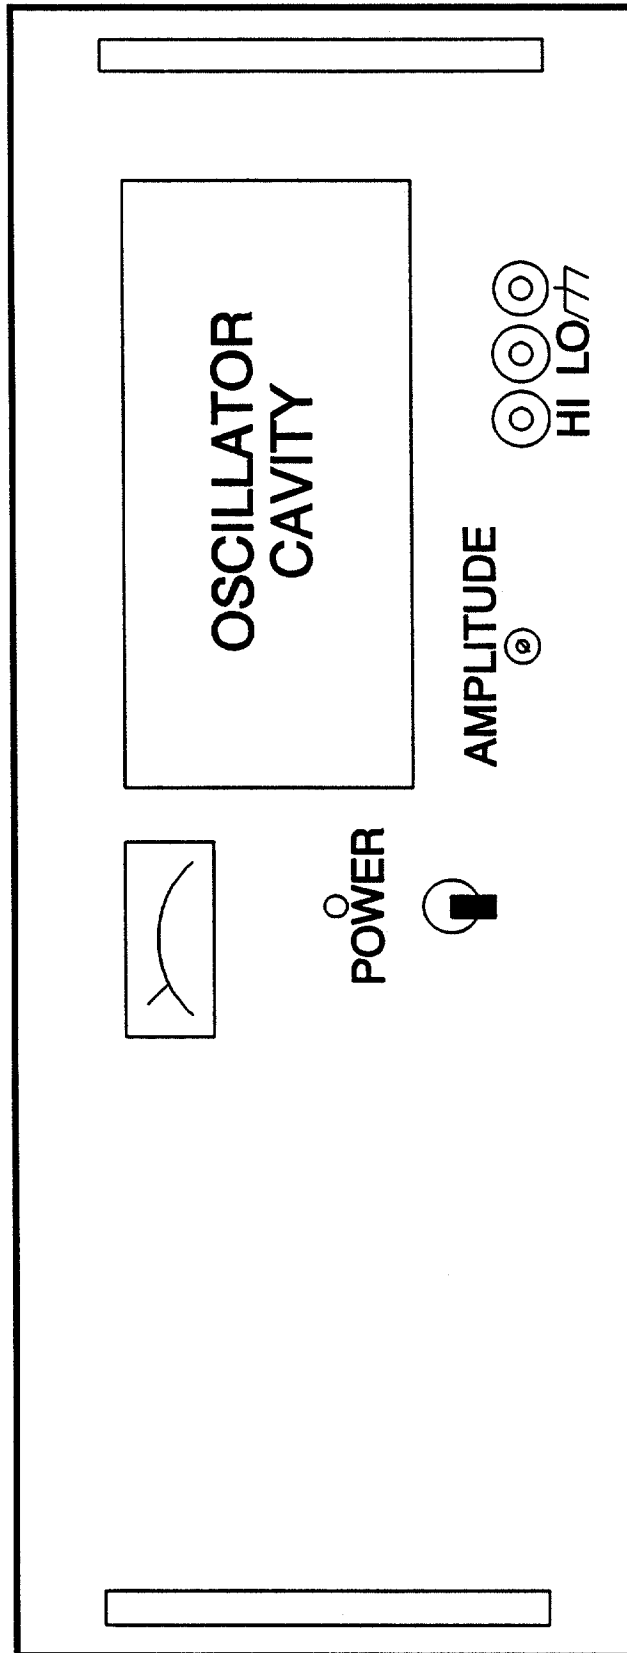

Figure 2-9. Model 751SL/1001SL (Front View)
1. Before installing the power source, verify that the input and output voltage ranges are compatible with the available utility power and the output voltage application. Refer to Figures 2-9 and 2-10, Table 2-1, and the unit serial number tag for model number information.